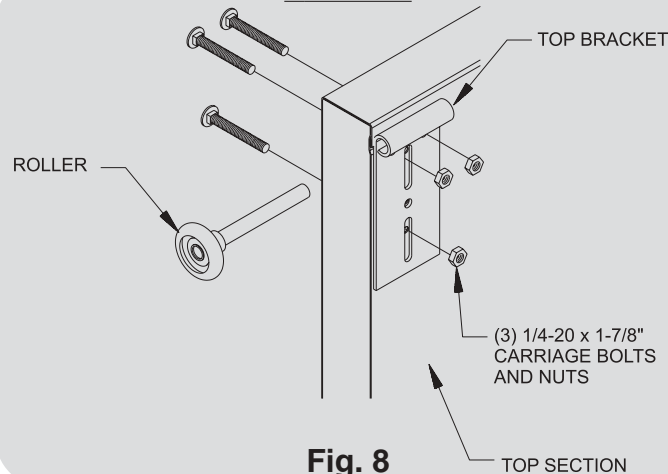

Fig. 8
For **wood doors**, drill a 9/32" dia (7mm) hole into the lower slot of the top bracket and through the section. Secure using (1) 1/4-20 x 1-7/8" carriage bolt and nut. Adjust the brackets if necessary, drill and secure with (2) more carriage bolts and nuts through the top holes as shown in **Fig. 8**.